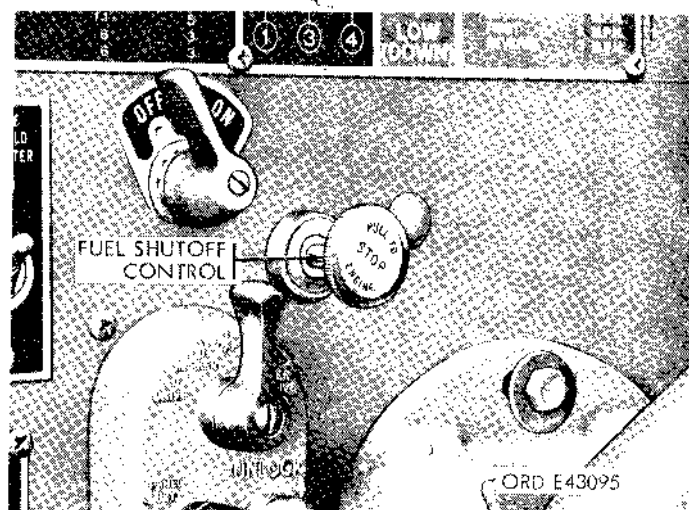

Figure 2-80. Removing fuel shutoff control from instrument panel.
(2) Remove the nut and lockwasher securing the shutoff control to the instrument panel. Pull the control from the panel (fig. 2-80).
- (2) Position the control on the instrument panel, and secure it to the panel with a lockwasher and nut (fig. 2-80).